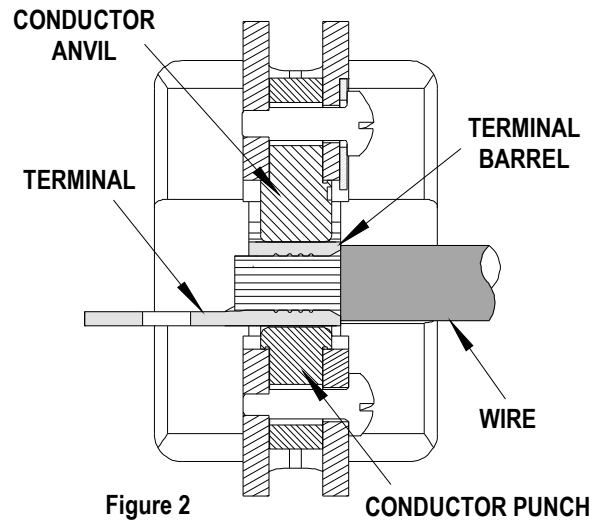

Figure 2
2. Push on wire to assure it is still fully seated in the terminal. See Figure 2 and 3. Cycle the tool.